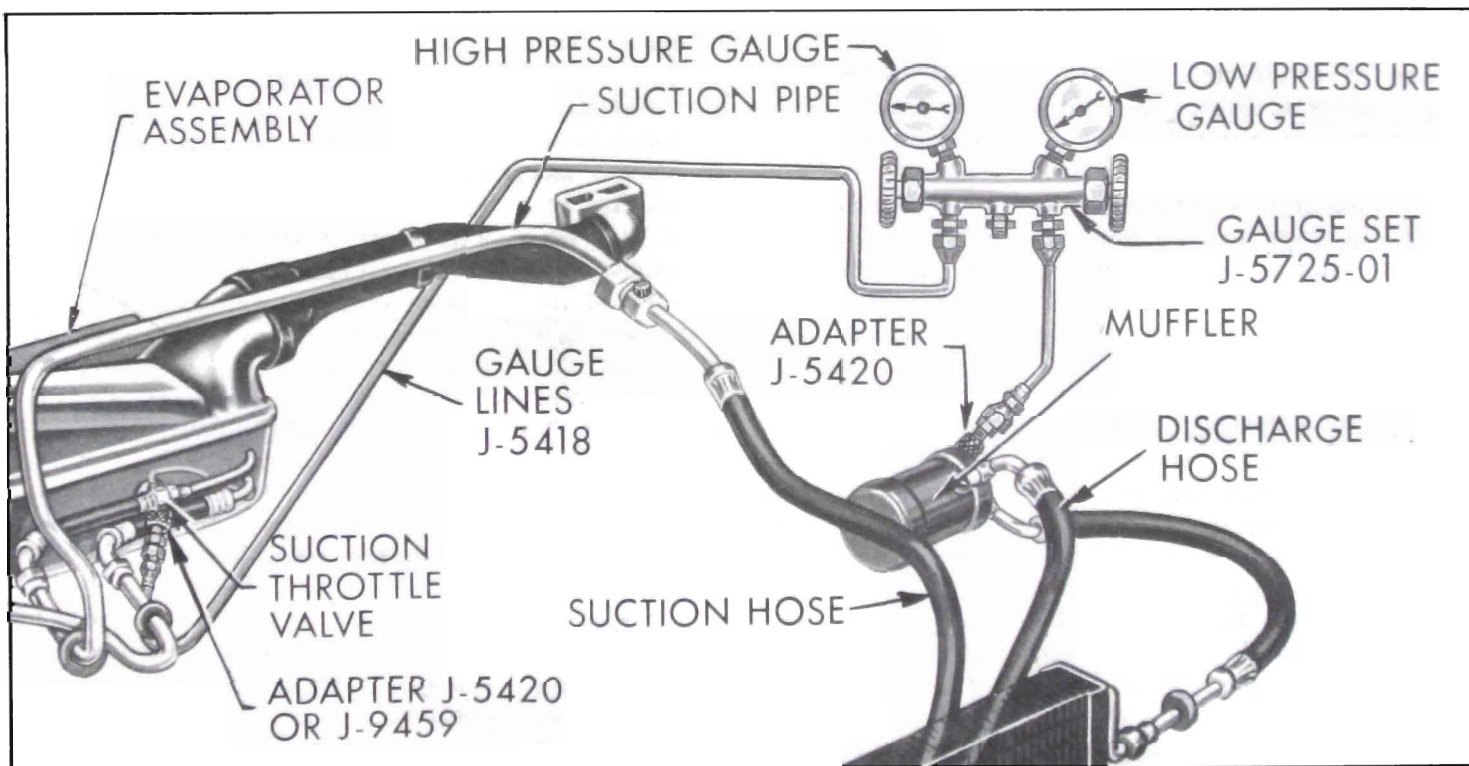
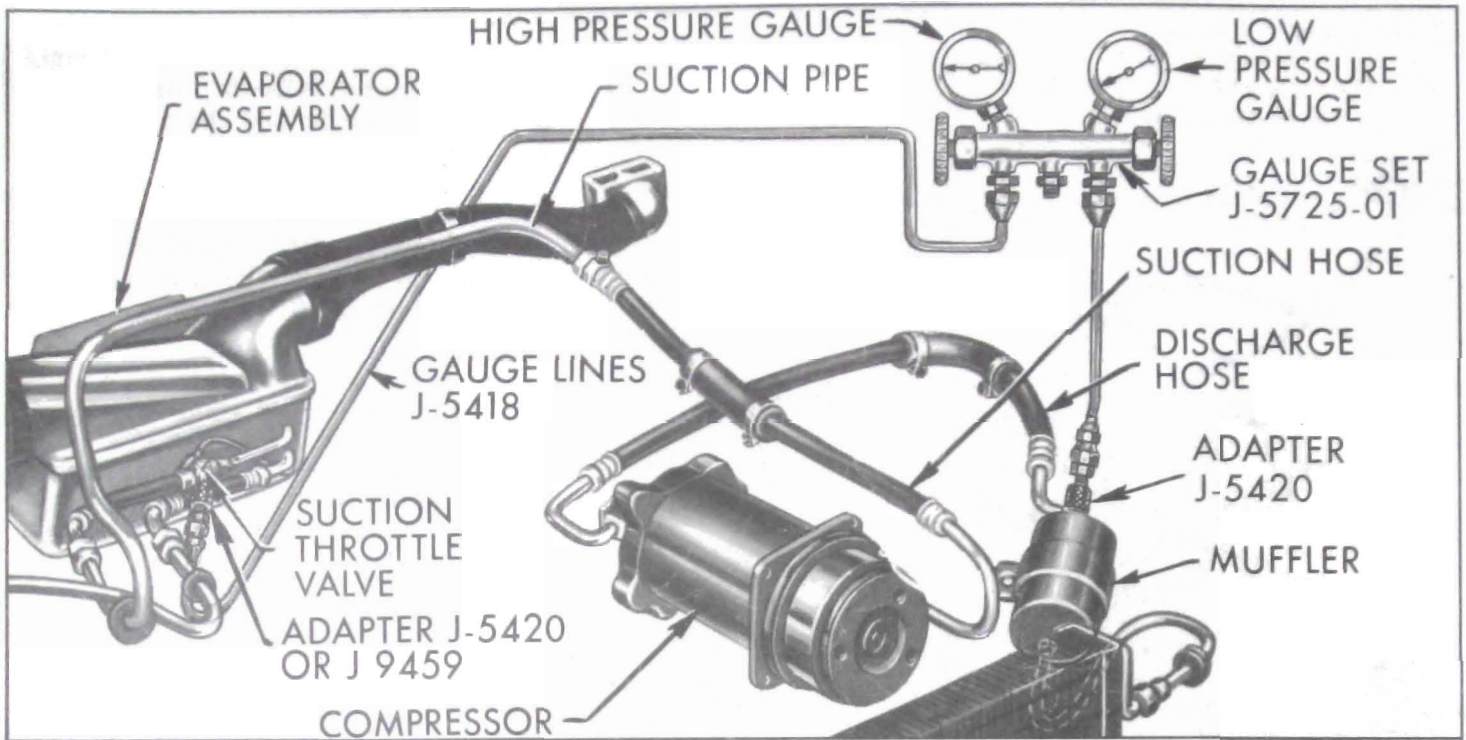

Figure 11-108—Gauge Hook-Up For Functional Testing Air Conditioner - V-8 Engine Installation
Figure 11-109—Gauge Hook-Up For Functional Testing Air Conditioner - V-6 Engine Installation
To functional test the air conditioner, the low pressure gauge line must be connected to the schrader valve on the suction throttle valve. Adapter J-9459 is used to depress the schrader valve. See Figure 11-98. Figure 11-108 shows the functional test gauge hook-up on V-8 installations and Figure 11-109 on V-6 installations.
7. Check ambient air temperature and air temperature at right air outlet following instructions on functional test chart. See Figure 11-110. Temperature should correspond with those listed on chart. If temperatures do not compare, attach gauge set (Figure 11-108 and 109) and functional test air conditioner.
3. Gauge set connected to high pressure schrader valve at muffler and to low pressure schrader valve on suction throttle valve. Adapters J-5440 or J-9459 must be used on gauge lines to depress schrader valves. See Figure 11-108 and 11-109.